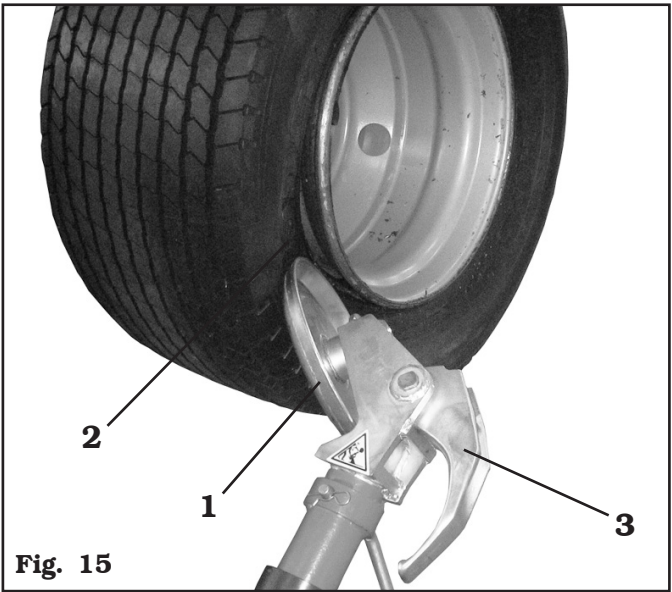

Fig. 15
- Place as shown in Fig. 15 the beading disc (Fig. 15 ref. 1) by means of the relevant handle control; the outer profile of the rim (Fig. 15 ref. 2) must almost touch the beading disc.
During all beading operations it is advisable to bend the hook tool (Fig. 15 and 16 ref. 3) to avoid obstacles during the operating phases.